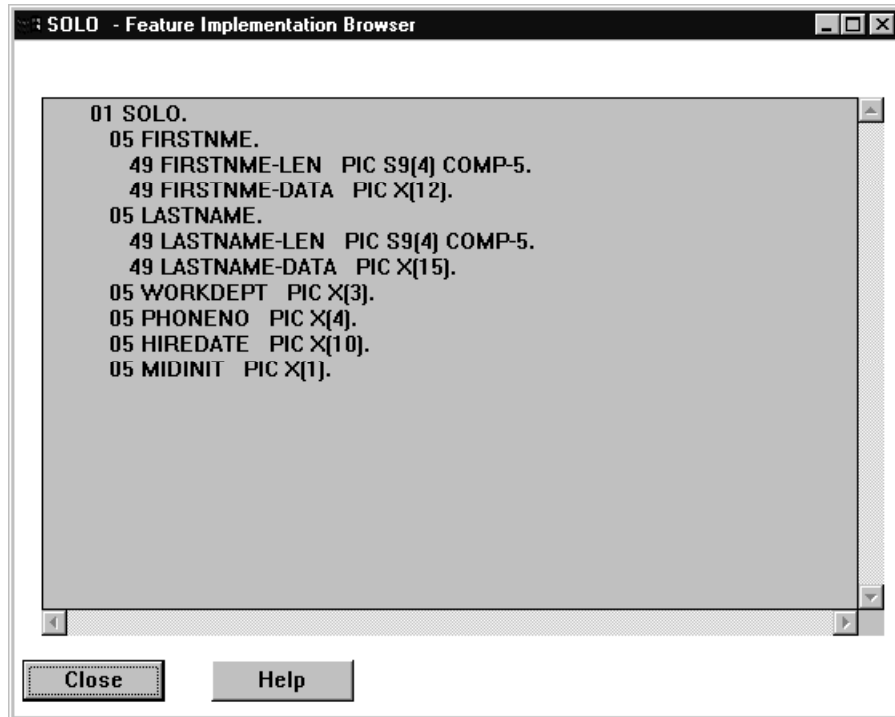

Figure 60. Feature Implementation Browser window to browse the part features for a data part
**Note:** When you select **Browse part features** for a window similar to Figure 60 on page 161 appears.